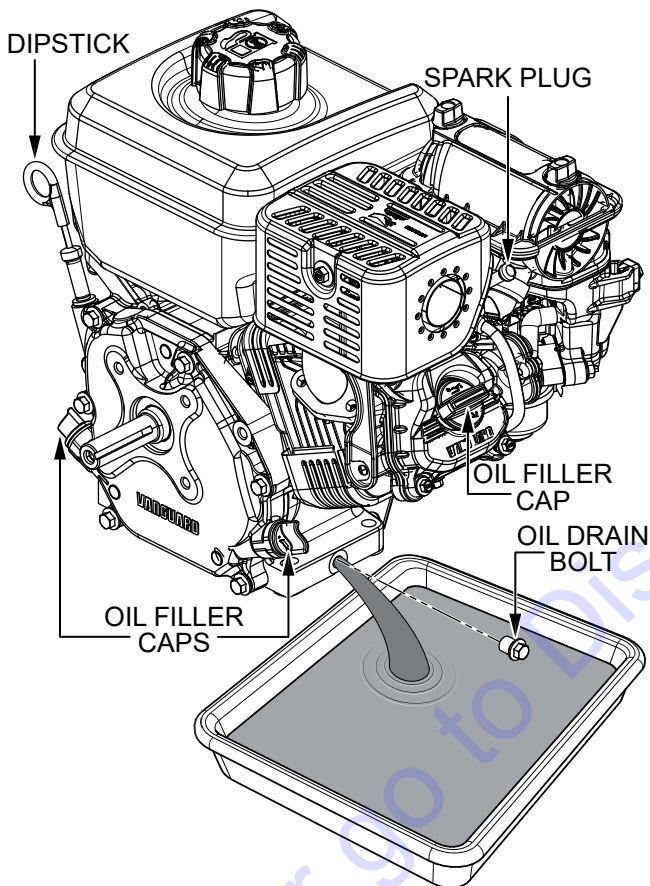

Figure 50. Draining Engine Oil
1. With the engine **OFF** but still warm, disconnect the spark plug wire and keep it away from the spark plug (Figure 50).
2. Remove the engine oil dipstick (Figure 50).
3. Remove one of the oil drain bolts (Figure 50) and allow the engine oil to drain into a suitable container.
5. Remove one of the oil filler caps (Figure 50) and fill with the recommended oil type listed in Table 5. For engine oil capacity, see Table 2. **DO NOT** overfill.